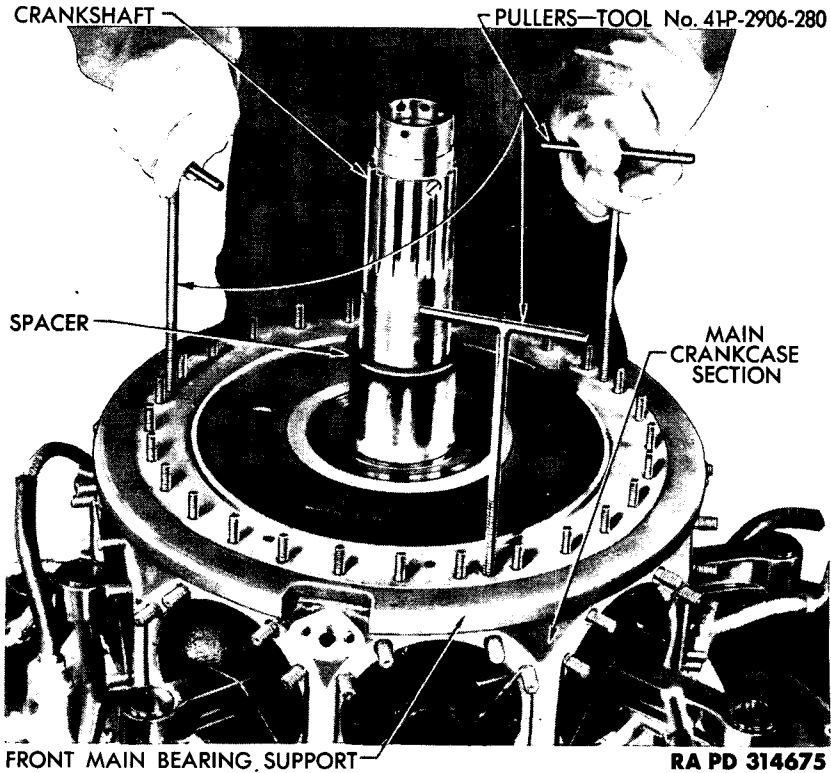
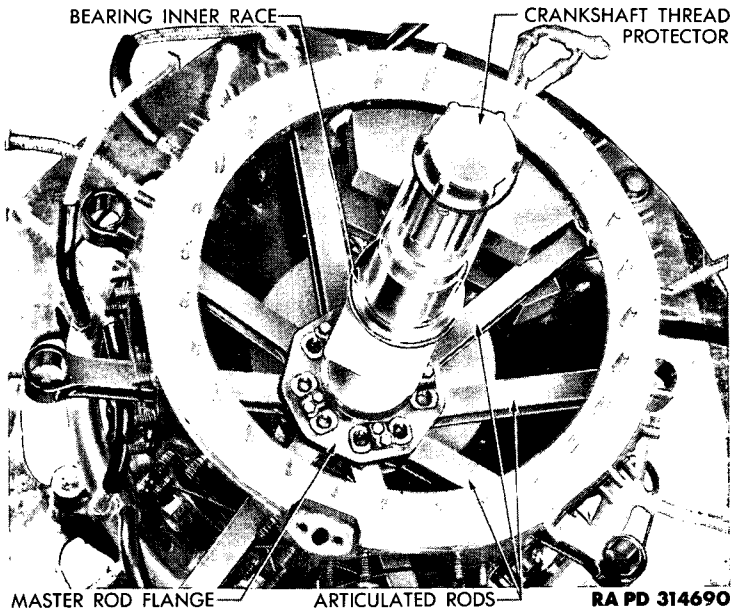

Figure 62 – Removing Front Main Bearing Support
Figure 63 – Interior of Main Crankcase Section Prior to Removal of Articulated Rods
s. Remove Front Main Bearing Support. Slide spool-like spacer from crankshaft (fig. 62). Pull front main bearing support from studs on main crankcase section (fig. 62), using three pullers (41-P-2906-280), and exerting equal pressure on each. Lift front main bearing outer race and roller assembly from inner race. Inner race remains on crankshaft (fig. 63). Handle bearing with care to avoid loss of rollers. Wrap bearing in oiled paper until ready to service or install. Reinstall thread protector on end of crankshaft (fig. 63).